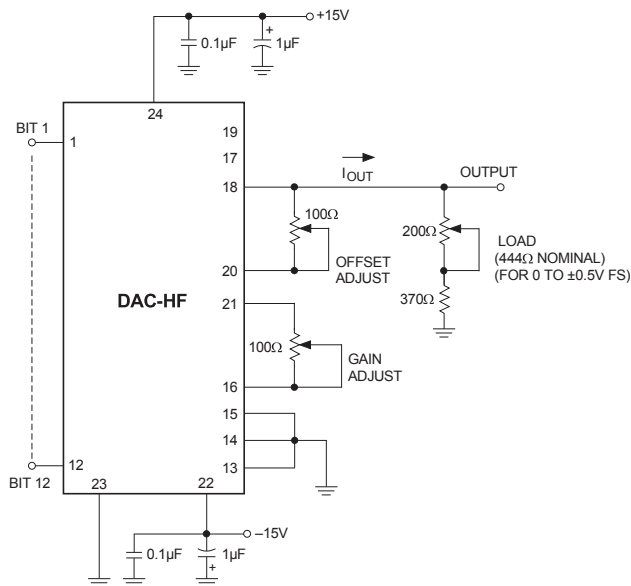

Figure 3. Bipolar Current Output Connections
1. Connect the converter as shown in Figure 3.